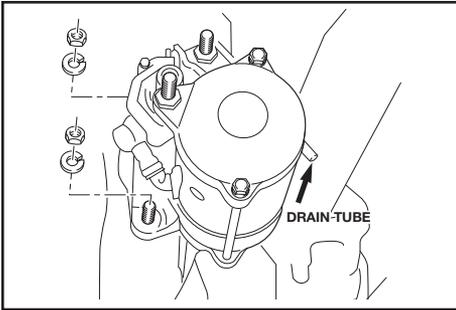

Fig. 3
4. The placement of the drain tube should not be more than 15° from the downward position (See Fig. 3).